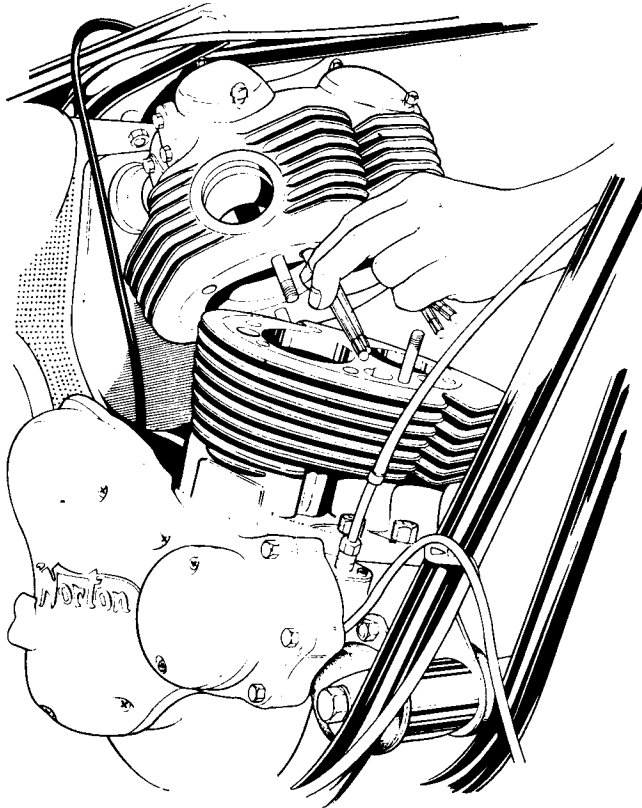

Fig. C3 Tilting cylinder head with pushrods held into cylinder head.
- 13 Lift the cylinder head from either side of the motorcycle, support with one hand and slide the pushrods as far as possible into the cylinder head. Fig. C3 shows the cylinder head tilted to the rear to facilitate the operation.